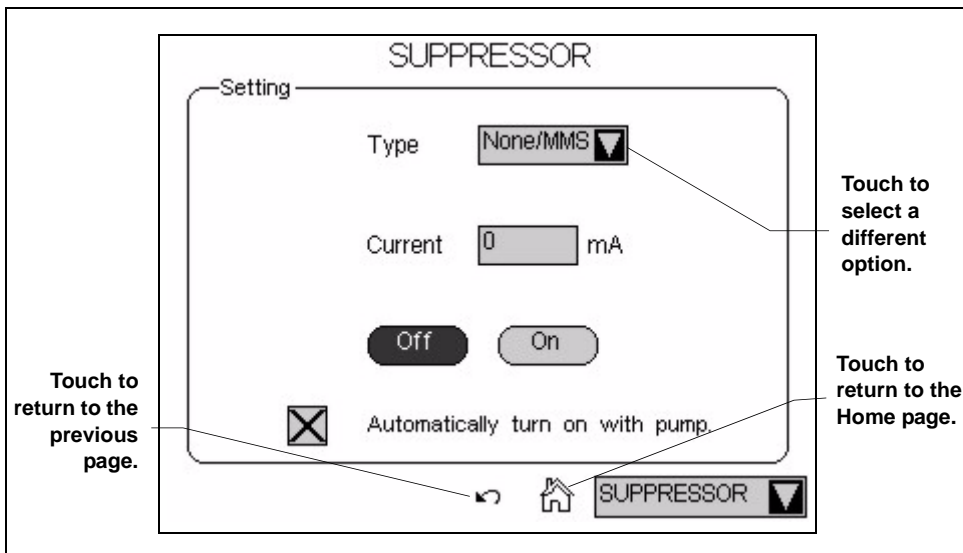

Figure C-4. Suppressor Page
- Touching a page name on the menu of pages displays the selected page. For example, touching **SUPPRESSOR** displays the **SUPPRESSOR** page (see Figure C-4).